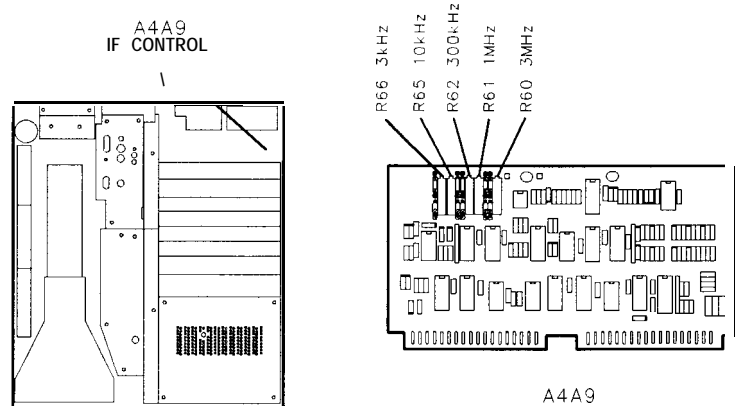

Figure 3-45. Location of 3 dB Bandwidth Adjustments
8. Adjust A4A9R60 3 MHz for MKR A indication of 1.5 MHz while maintaining marker at 3 dB point (.707 X) using DATA knob. See Figure 3-45 for location of adjustment.
14. Adjust A4A9R61 1 MHz for MKR A indication of 500 kHz while maintaining marker at 3 dB point (.707 X) using DATA knob. See Figure 3-45 for location of adjustment.
20. Adjust A4A9R62 300 kHz for MKR A indication of 150 kHz while maintaining marker at 3 dB point (.707 X) using DATA knob. See Figure 3-45 for location of adjustment.
26. Adjust A4A9R65 10 kHz for MKR A indication of 5.00 kHz while maintaining marker at 3 dB point (. 707 X) using DATA knob. See Figure 3-45 for location of adjustment.
32. Adjust A4A9R66 3 kHz for MKR A indication of 1.5 kHz while maintaining marker at 3 dB point (.707 X) using DATA knob. See Figure 3-45 for location of adjustments.